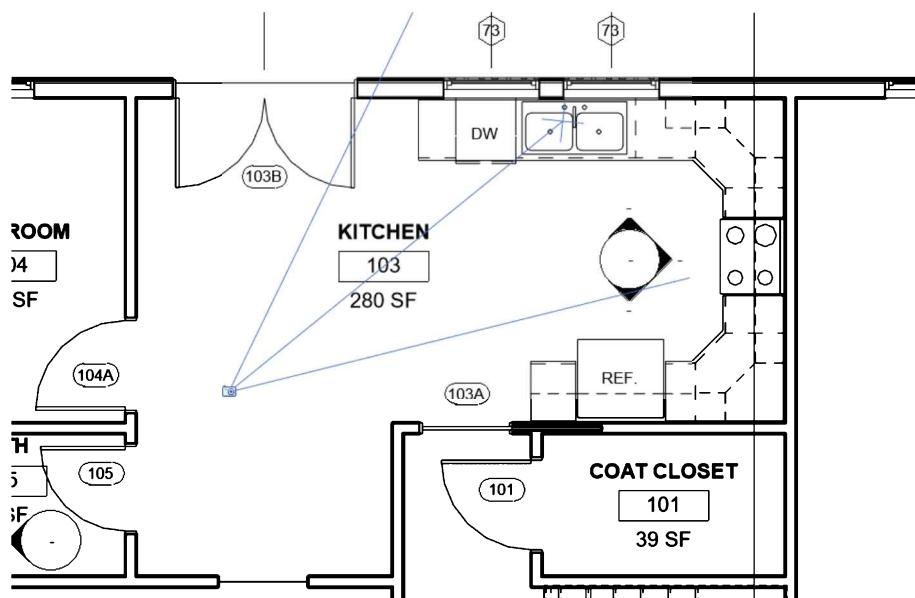

FIGURE 14-4.1 Camera placed – Kitchen
4. Place the *Camera* as shown in **Figure 14-4.1**.